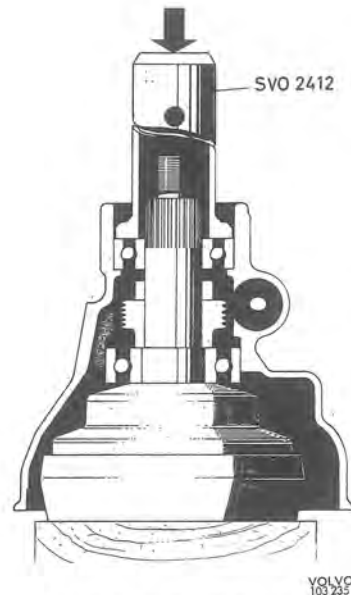

Fig. 4-50. Installing output shaft
3. Place a wooden block under the output as support. Fit the speedometer driving gear and spacer. Press on the rear casing with drift SVO 2412, see Fig. 4-50.